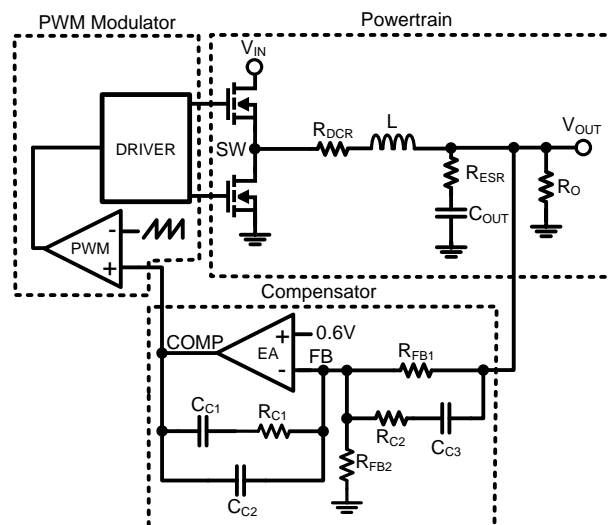

Figure 35. Control Loop Schematic Diagram
There are three main blocks of a voltage mode buck switcher that the power supply designer must consider when designing the control system: the powertrain, PWM modulator, and the compensator. A diagram representing the control loop is shown in Figure 35.
The powertrain consists of the filter inductor (L) with DCR ( $R_{DCR}$ ), output capacitor ( $C_{OUT}$ ) with ESR (effective series resistance  $R_{ESR}$ ), and effective load resistance ( $R_O$ ). The error amplifier (EA) regulates the feedback pin (FB) to 0.6V. The passive compensation components around the error amplifier help maintain system stability. Type III compensation is shown in Figure 35. The PWM modulator establishes the duty cycle command by comparing the error amplifier output (COMP) with an internally generated ramp set at the switching frequency.
The complex poles ( $f_{LC}$ ) created by the filter inductor and output capacitor cause a 180° phase shift as seen in Figure 36. The phase is boosted back up to -90° by virtue of the output capacitor ESR zero. The phase shift caused by the complex poles must be compensated to stabilize the loop response. The compensation network shown around the error amplifier in Figure 35 creates two poles, two zeros and a pole at the origin. Placing these poles and zeros at the correct frequencies will optimize the loop response. The compensator transfer function is: